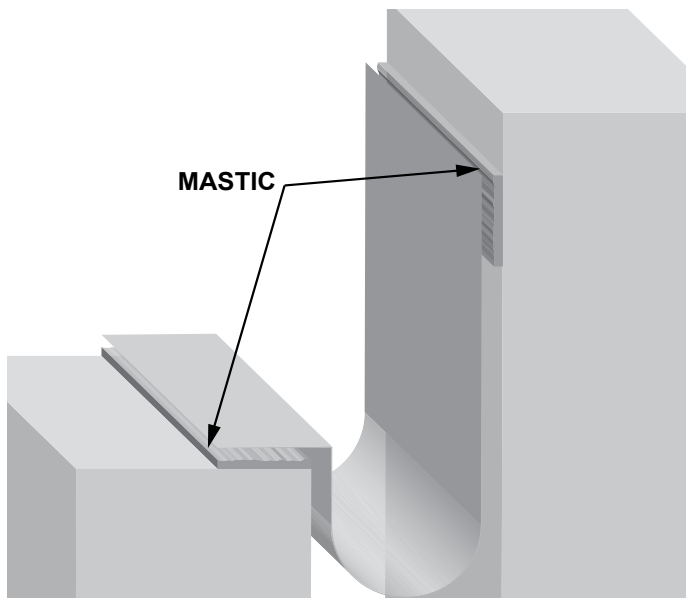

Figure 3— RWg Mastik Placement
1. Spread non-curing mastic on the substrate on the roof and wall assembly along the side of the joint where the EPDM water barrier will be in contact with the substrate (Figure 3).